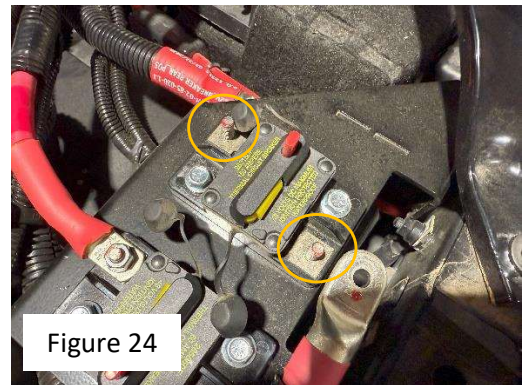

Figure 24
25. Next, undo nuts and washers on both wires from the rear breaker (150A) and set aside (Figure 24)